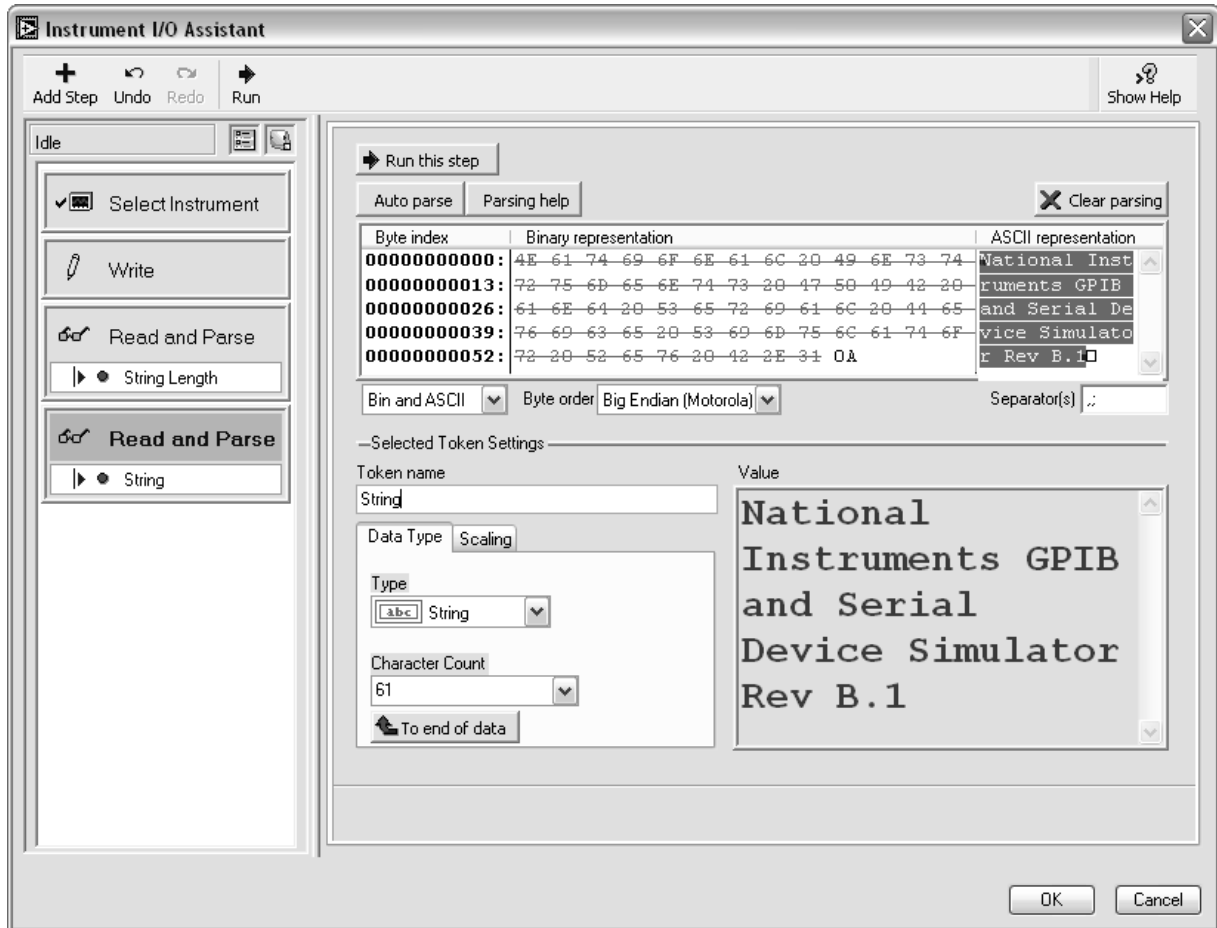

Figure 9-8. Serial Configuration of the Instrument I/O Assistant
- Rename `Token` to `String` in the **Token name** text box. The configuration window should be similar to Figure 9-8.